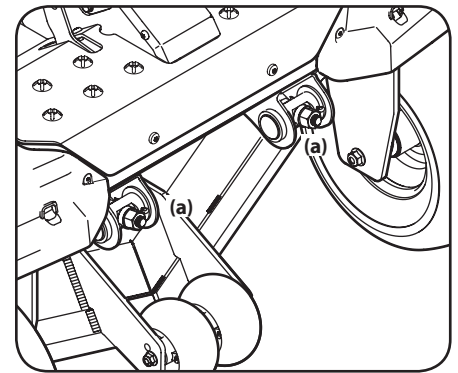

Figure 4-8
5. Using a wrench, raise the front of deck by loosening the lock nuts to the front of the pivot pin (a) and then tighten the jam nuts on the back of the pivot pin (a) to raise the front of the deck and secure in place. See Figure 4-8.
6. Using a wrench, lower the front of deck by loosening the jam nuts on the back of the pivot pin (a) and then tighten the lock nut on the front of the pivot pin (a) to lower the front of the deck and secure in place. See Figure 4-8.